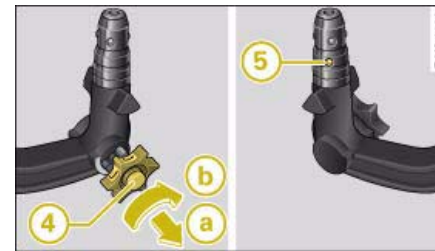

Fig. 239 Removable towing bracket: Setting the spring mechanism to the "ready" position
- Insert the key (4) ⇒ fig. 239 for locking the ball joint into the lock on the knob and turn it clockwise. ▶
- Pull out the knob in direction (a), hold and turn in direction (b) until the locking ball (5) engages ⇒ ⚠.